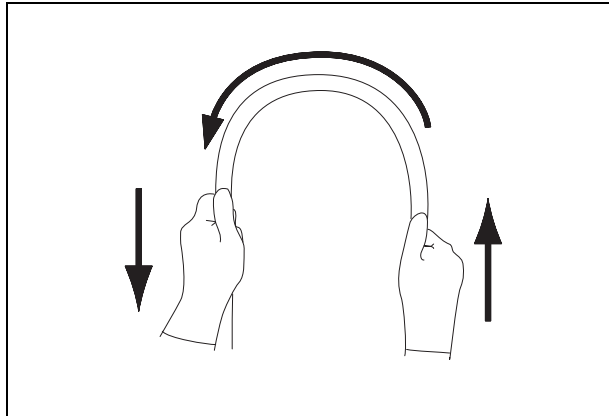

Figure 3.3
5. Using both hands, bend the insertion tube of the endoscope into a semicircle. Then, moving your hands as shown by the arrows in Figure 3.3, confirm that the entire insertion tube can be smoothly bent to form a semicircle and that the insertion tube is pliable.